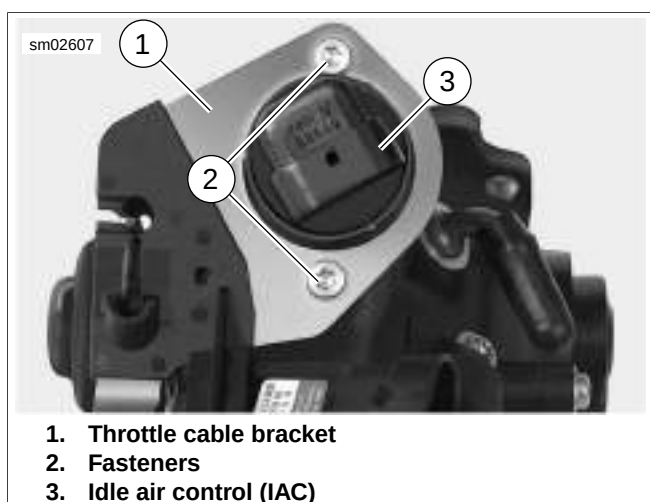

Figure 4-21. Idle Air Control Location
2. See Figure 4-21. Remove two fasteners (2) to release throttle cable bracket (1) from induction module. Discard fasteners.
5. See Figure 4-21. Install **new** throttle cable bracket fasteners (2). Tighten to 20-35 **in-lbs** (2.3-4.0 Nm).